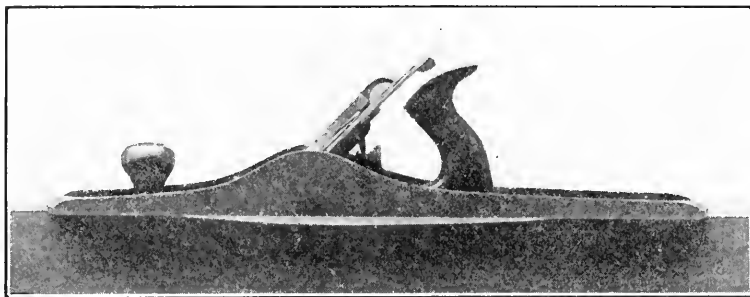

Fig. 133
ened by a longer plane (Fig. 133), or where the surface must be smooth but need not be true. Small pieces can be straightened and trued by the smoothing-plane alone. See also *Block-plane*, below and *Planing*, page 43.
34. Planing Edges and Narrow Surfaces.— What you have to do is to make the edge straight from end to end and also square with the side of the piece. A long plane does this better than a short one (Fig. 133). Use the jack-plane, fore-plane, jointer, or long jointer,